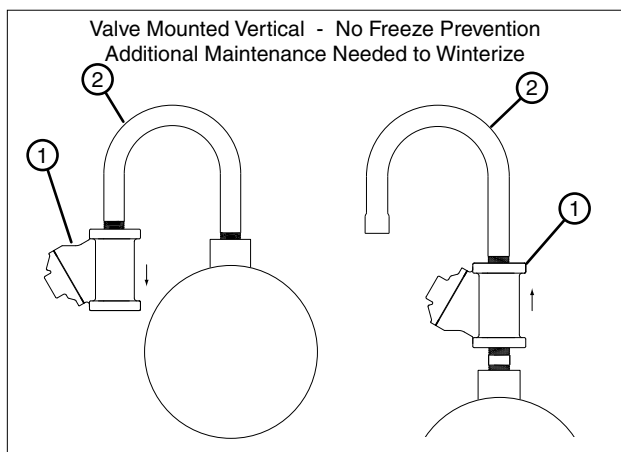

Figure 170-3 1. Aquamatic Valve
- Other plumbing configurations that might be used in regions where the temperature during the winter months stays above 40°F (4°C) are shown in Figure 170-3.
- The valve is mounted vertically which does not allow water to drain out of the valve or U-pipe. If temperatures drops below 40°F (4°C), turn the VRI option off and run the machine with water, this opens the valves (which can be visually inspected) to drain water and reduce the possibility of damage due to freezing. Refer to Figure 170-3.